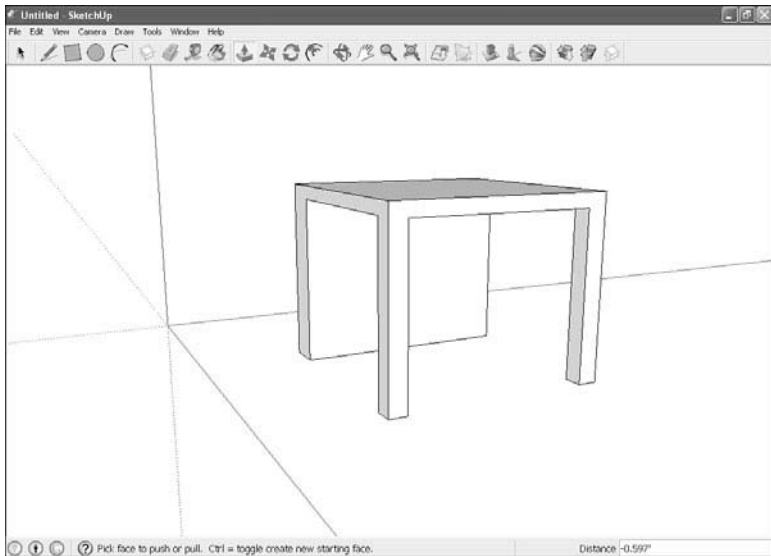

FIGURE 5.22 Pushing through a rectangle.
12. Push the rectangle through until you get a cutout in the shape of the rectangle. You can see what the result will look like in Figure 5.22.